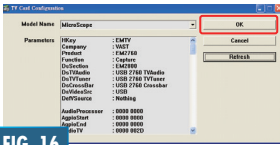

FIG. 16
- "TV Card Configuration" window will show up the first time, click the "OK" button and double click the MicroViewer 5MP again (Fig. 16).